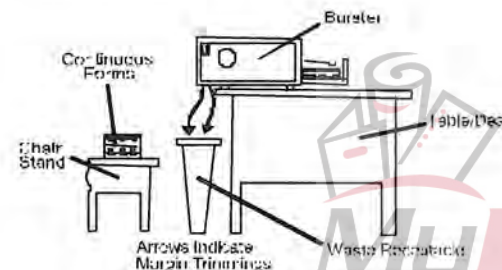

Figure 3
5. Place Burster on a table/desk with the front hanging over the edge of the table/desk. See Figure 3. This will allow scrap trimmings from slitter housings to exit downward (indicated by arrows in Figure 3). A small table or chair may be placed in front of table/desk on which forms stack will be placed (the floor may also be used). Keep all 4 rubber feet on the table/desk. Place a suitable trash receptacle in front of unit, directly below Burster as shown in Figure 3.